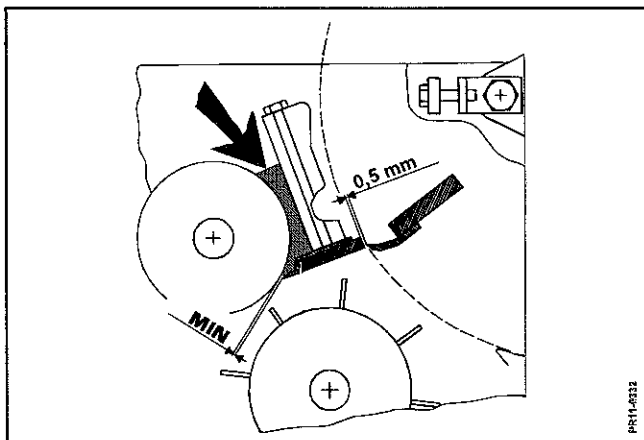

Fig.24
**Fig. 24** In some conditions the crop substance (small particles) can accumulate in the shaded area and this can result in overloading of the transmission. Check the area after every 8 hours drive and remove any crop remains. Check, and if necessary, adjust the distance between the scraper and the smooth roller. The inspection frequency can be reduced when the machine has been run in under all crop conditions.